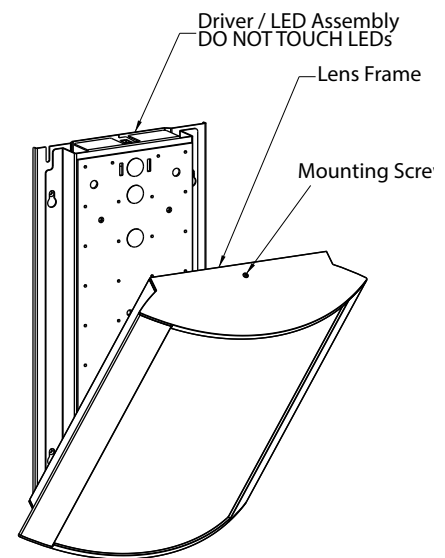

FIG.5
1. Align **Lens Frame** over the **Driver/LED assembly** with the phillips head **mounting screw** at the top. See **Figure 5**.
2. Inset the lens frame from the bottom with the bottom flush against the wall. See **Figure 5**.